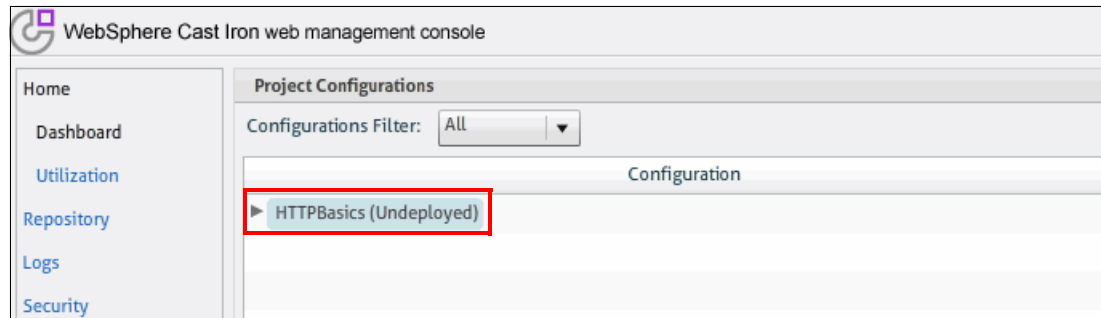

Figure 6-7 HTTPBasics project configuration
2. In the Home page, select the Project Configuration to download, as shown in Figure 6-7.